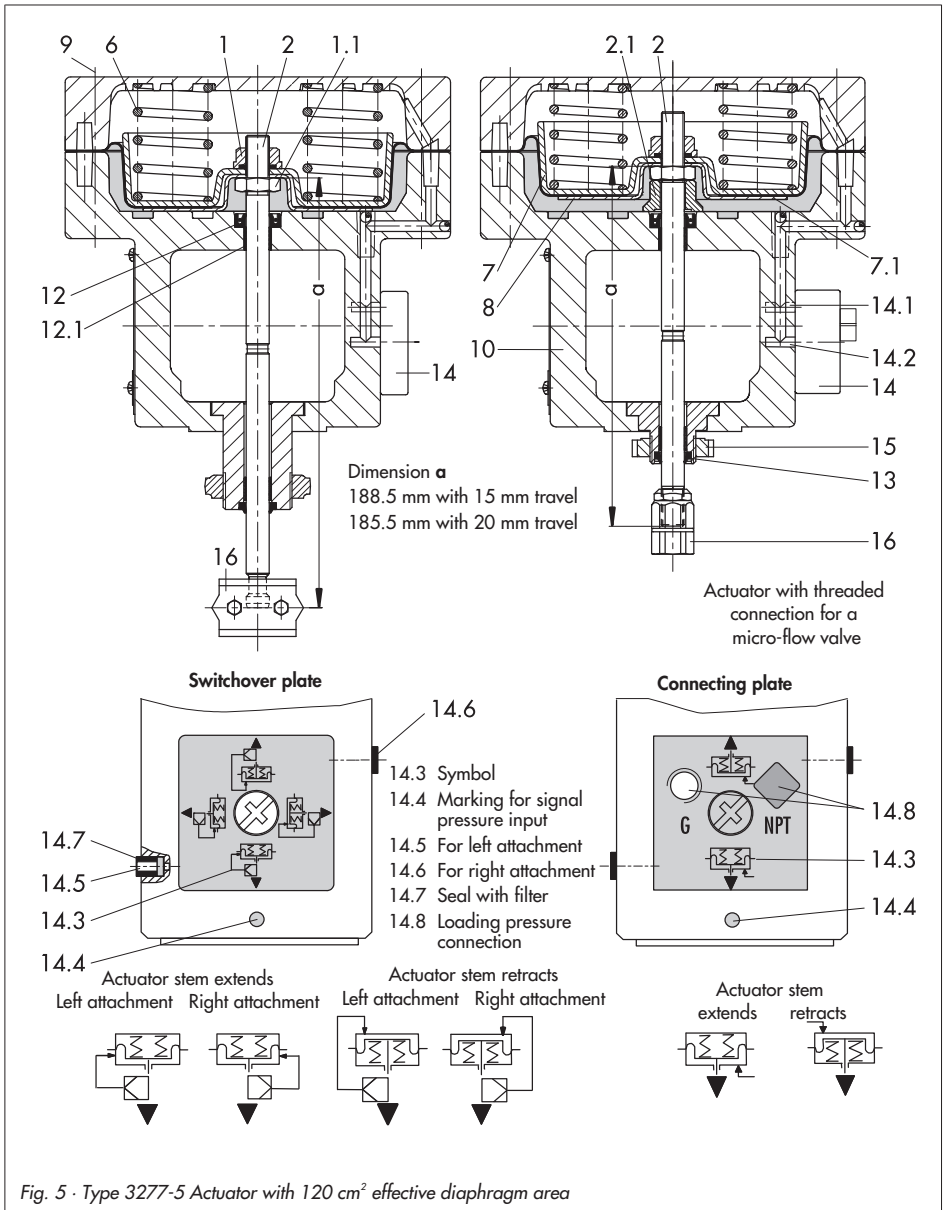

Fig. 5 · Type 3277-5 Actuator with 120 cm² effective diaphragm area
Type 3277-5 Actuator (Fig. 5)
- ▶ Turn the switchover plate to align the symbol (14.3) for the appropriate fail-safe action with the marking (14.4). See Fig. 5, bottom left. The operating direction (>>) or (<<) of the positioner determines whether the left or right attachment is to be used.
- ▶ Turn the connecting plate to align the symbol (14.3) for the appropriate fail-safe action "Actuator stem extends" or "Actuator stem retracts" with the marking (14.4). See Fig. 5, bottom right.